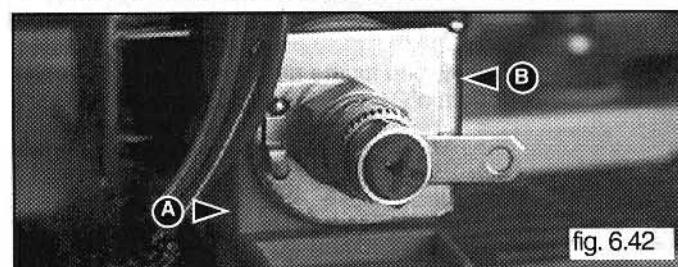

fig. 6.42
- 5 Slide the coil "A" and its housing from the valve (see fig. 6.42);
- 6 Remove the plate "B" (see fig. 6.42);